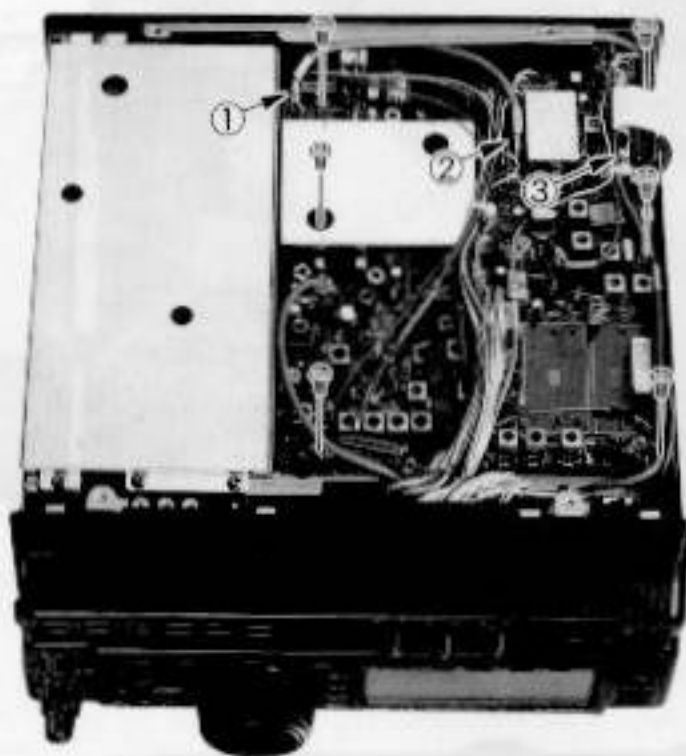

Figure 2: RF Unit Location
- Disconnect the light-blue-banded coaxial cable from J2026 near the rear of the exposed RF Unit (① in Figure 2). If you are not installing any crystal filters, skip the next three steps.
- If installing crystal filters you will need to access the solder side of the RF Unit. Unplug the yellow-banded coaxial cable from J2024 near the rear corner of the RF Unit (② in Figure 2).
- Using a small sharp tool, gently pry up on either side of J2011, the white plastic ribbon cable socket near the rear left corner of the RF Unit (③ in Figure 2), about 2 mm ($\frac{1}{8}$ inch), until the ribbon cable can be removed (see Figure 3).
- Remove the six screws indicated in Figure 2 (one is inside the large shield housing, accessible through the hole near the corner).
- Replace the six screws removed from the RF Unit (Fig.2), and replace the coaxial cables (① and ② in Fig. 2): the yellow-banded cable goes in J2024, and the light-blue-banded cable goes in J2026.